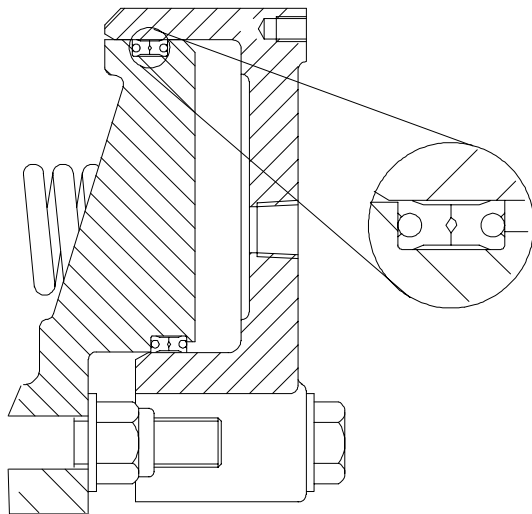

Figure 11
- 4.6.4 Insert new seals into the grooves, noting the orientation of the seals per Figure 11.